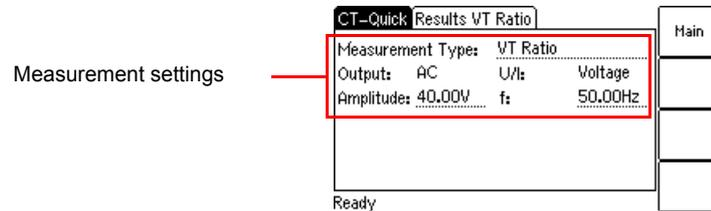

Figure 8-13 **CT-Quick** test card with settings for VT ratio measurement
3. Select the **VT Ratio** measurement type. Set the amplitude to the maximum output voltage of 40V and the frequency to the mains frequency. Refer to Figure 8-13.